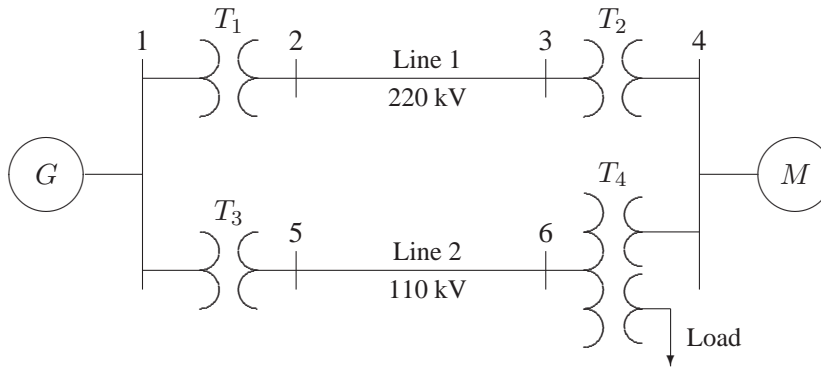

FIGURE 28
3.14. The one-line diagram of a power system is shown in Figure 28.